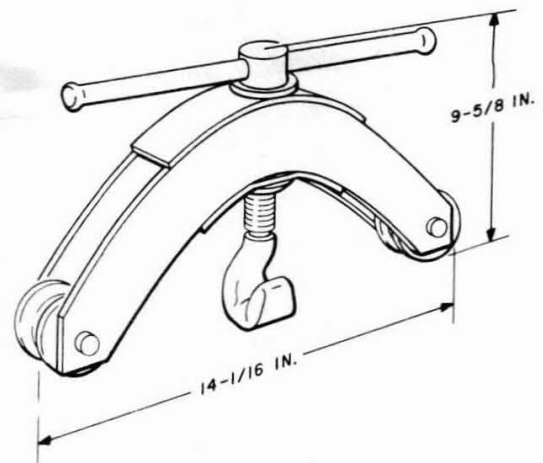

Fig. 4—C Slack Puller
**3.04** The C slack puller (Fig. 4) is similar in design to the D puller, except that the lifting screw is not equipped with a stop to prevent accidental separation, and the sliding handle is not removable.